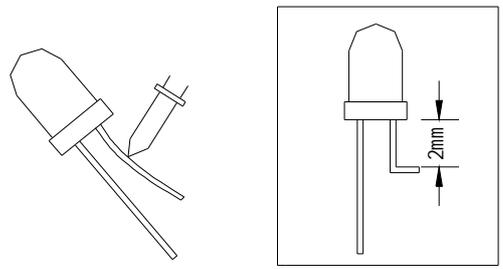

Fig. 7
- 1) The lead should be bent at least 2mm away from the package. Bending should be performed with base fixed to a jig to pliers (Fig.7)